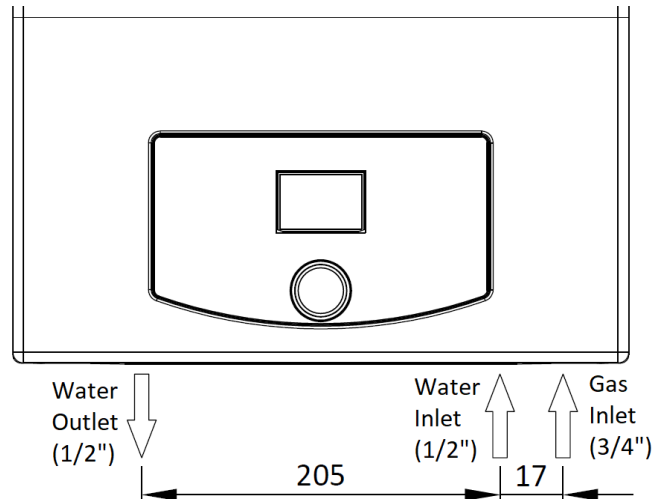

Figure 12
- Water & gas connections distance between the pipes' connections are shown in fig. 12.